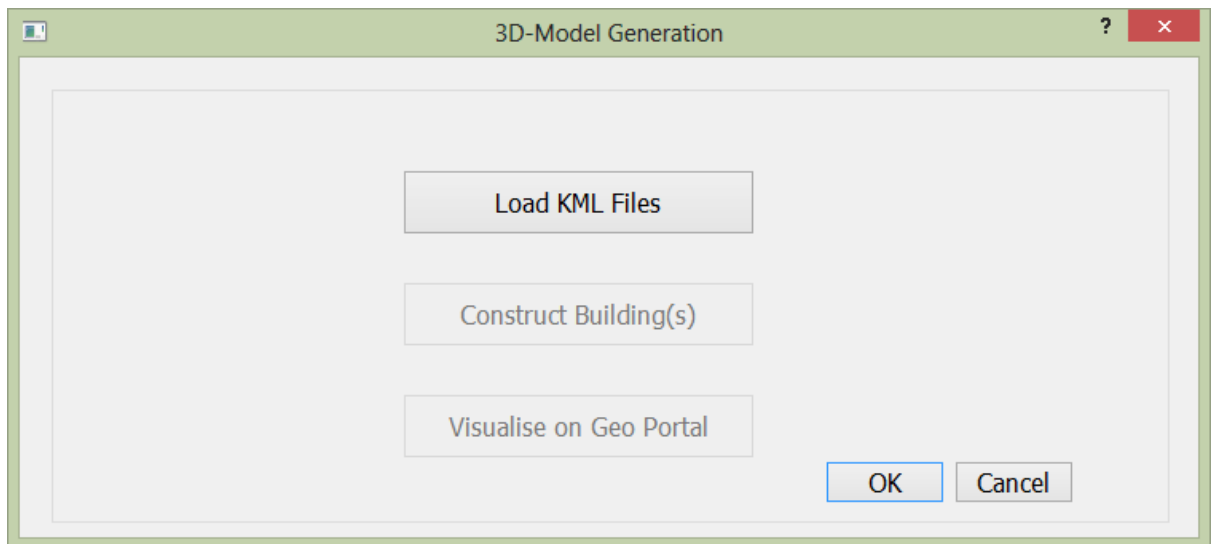

Fig 18: 3D Model Generation window
- To generate a 3D model of the building, click on '*3D Model Generation*' in main menu to open the 3D-Model Generation window.(See Fig 18).